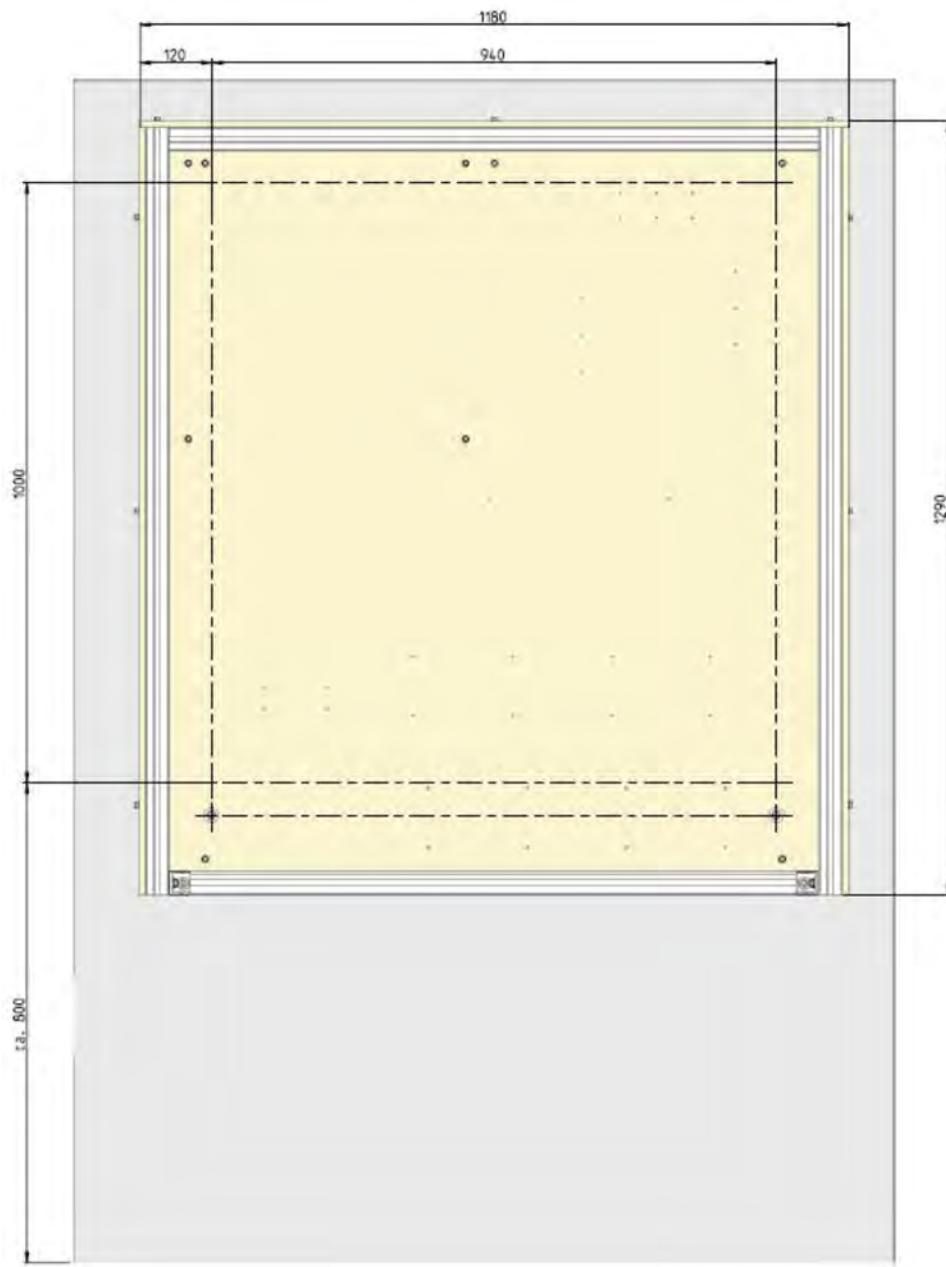

Fig. 13: Assembly diagram
2. Mark the drill holes on the wall according to diagram ↗ *Chapter 6.3.1 'Assembly diagram' on page 51, Fig. 13.*